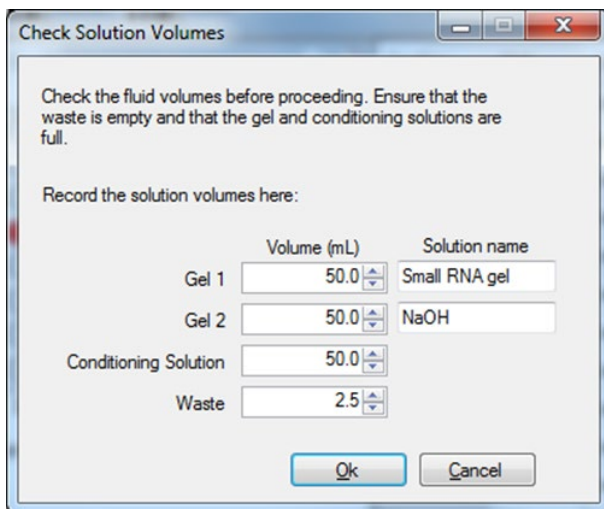

Figure 1 Solution Levels menu
- 6 When adding separation gel to the instrument, update the solution levels in the Fragment Analyzer control software. From the main screen, select **Utilities > Solution Levels**. A menu will be displayed to enter in the updated fluid levels (Figure 1).
- 5 When adding fresh 1x Capillary Conditioning Solution to the instrument, update the solution levels in the Fragment Analyzer control software. From the main screen, select **Utilities > Solution Levels**. A menu will be displayed to enter in the updated fluid levels (Figure 1).